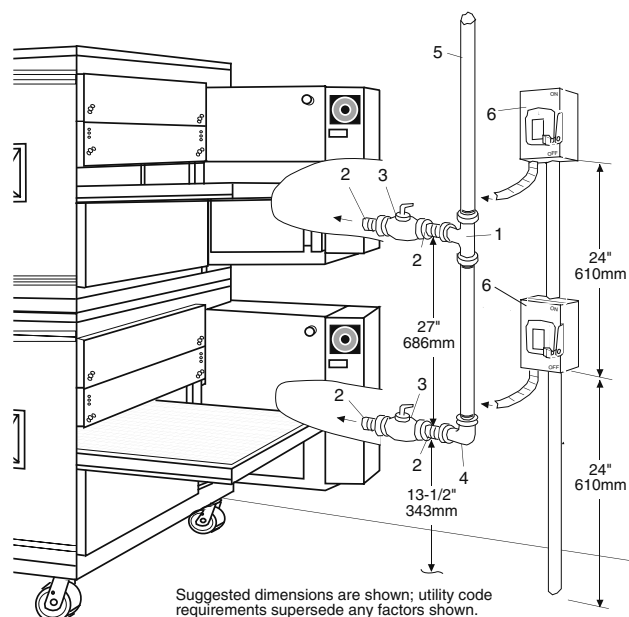

Figure 2-9. Typical PS540-Series Oven(s)
A 3/4" (19mm) ID (inner diameter) **full-flow**, gas shutoff valve. A separate connection and valve must be provided for each oven, as shown in Figure 2-9.
**USER SUPPLIED ITEMS (Figure 2-9)**